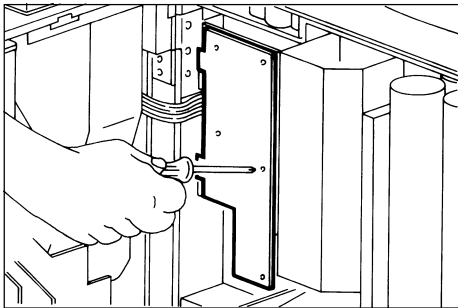
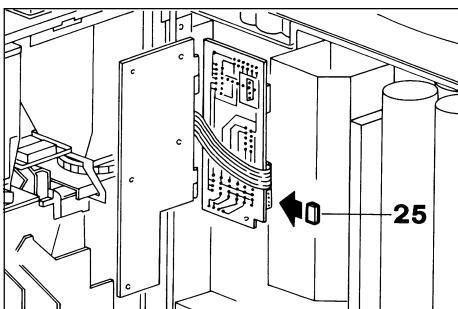

Fig. 11
Fig. 12
- To insert key, remove the three screws fastening the coin plate and turn the latter (Fig. 11) in order to gain access to the connector fitted on the selection panel board. The key must be inserted into this connector fitted on the selection panel board (Fig.12).